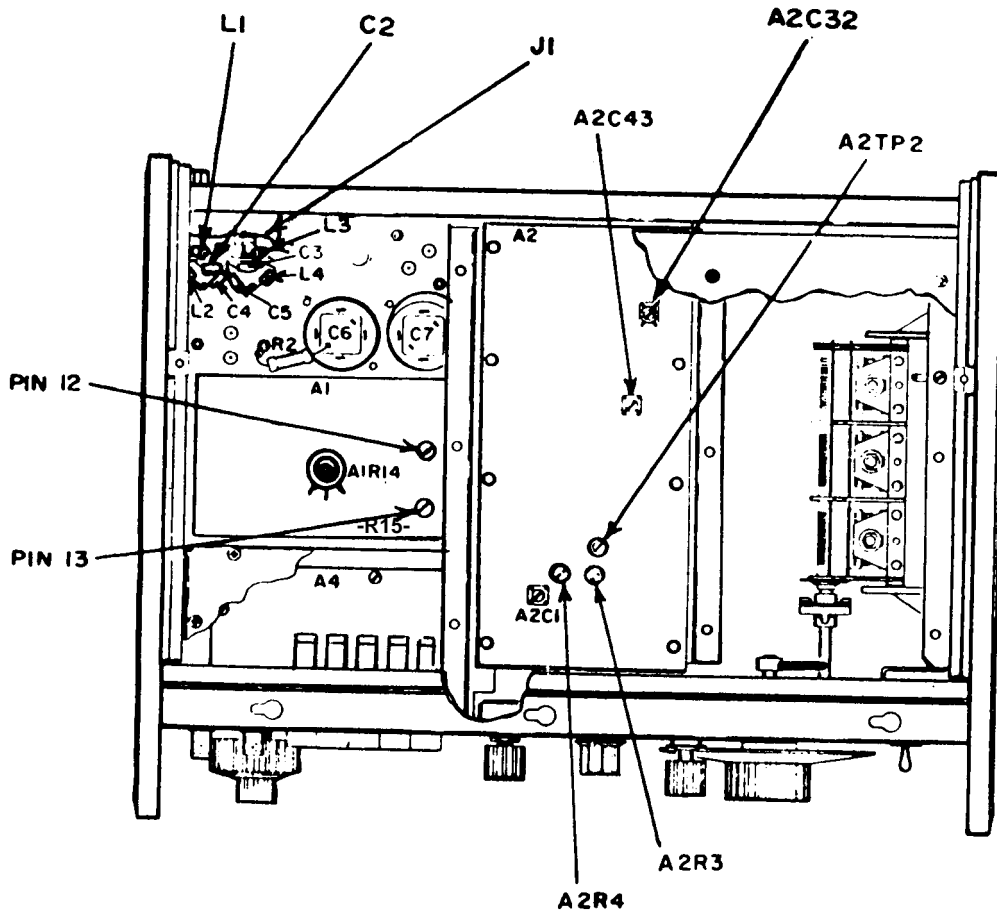
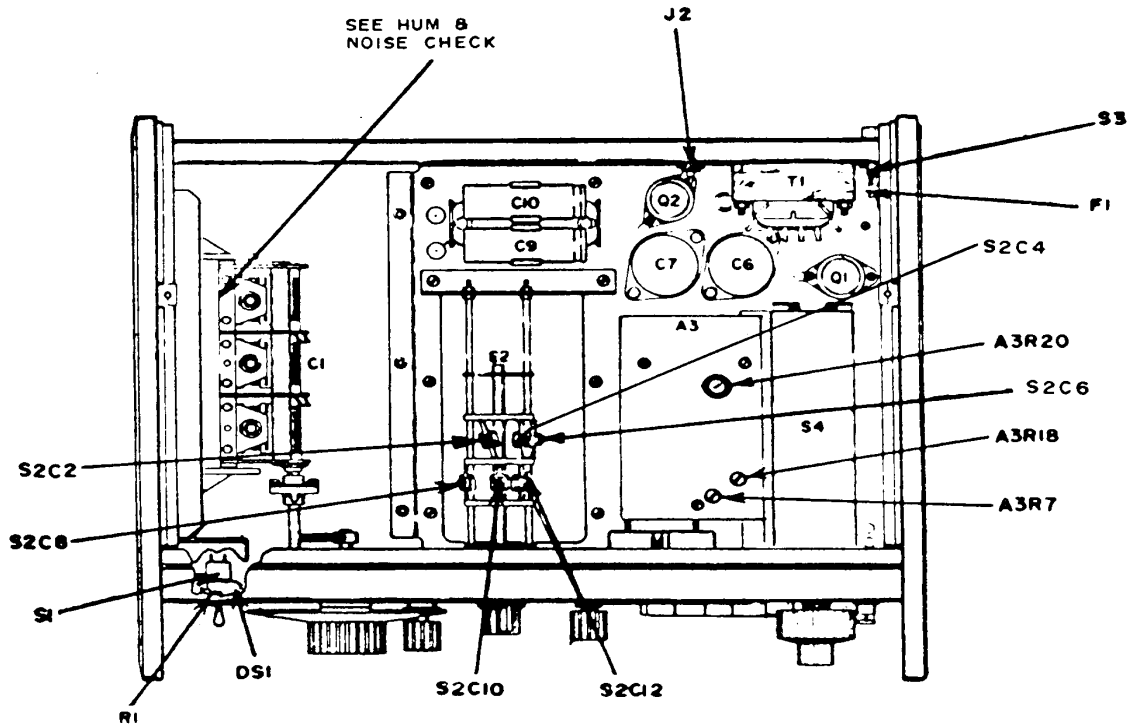

Figure 1. Adjustment locations - bottom view.
Figure 2. Adjustment locations - top view.
- (1) Connect multimeter between **A2TP2** (fig. 1) and **chassis ground** termination.
- (2) Connect audio analyzer or spectrum analyzer to TI UNBAL output, using 50 Ω feed-through termination.
- (3) Position controls as listed in (a) through (d) below:
- (4) Adjust **A2R3** (fig. 1) for a -350 mV indication on multimeter (R).
- (5) Adjust **A2R4** (fig. 1) for minimum distortion on audio analyzer, or at least -46 dB on the spectrum analyzer (R).
- (6) Rotate **FREQUENCY** dial fully ccw.
- (7) Alternately adjust **S2C2** and **S2C8** (fig. 2) until frequency counter indicates 10.2 kHz and multimeter indicates between -340 and -360 mV (R).
(8) Rotate **FREQUENCY** dial fully cw. Frequency counter will indicate between 965 and 970 Hz.
(9) Set **FREQUENCY** dial for a 1 kHz indication on frequency counter. If dial does not indicate 1, perform (a) through (c) as listed below:
- (c) Tighten retaining screws and install **FREQUENCY** dial knob (R).
(10) Set **FREQUENCY** dial to 10.
(11) Readjust **S2C2** and **S2C8** (fig. 2) alternately until frequency counter indicates 10 kHz and multimeter indicates -350 mV (R).
(12) Set **FREQUENCY RANGE** switch to **X1M** and **FREQUENCY** dial to 10.
(13) Adjust **S2C6** and **S2C12** (fig. 2) for a frequency counter reading between 10.1 and 10.2 MHz, and **A2TP2** (fig. 1) for multimeter reading between -0.38 and -0.40 V (R).
(14) Set **FREQUENCY** dial to 5. If frequency counter does not indicate between 4.935 and 5.065 MHz, go to (15) below. If (15) below is not performed, proceed to (16) below.
(15) Set **FREQUENCY DIAL** to 10. If frequency counter indication was high, adjust **A2C1** (fig. 1). If frequency counter reading was low, adjust **A2C1** (fig. 1) to lower frequency counter reading and repeat (12) through (14) above (R).
(16) Set **FREQUENCY RANGE** switch to **X100K** and **FREQUENCY** dial to **10**. Adjust **S2C4** and **S2C10** (fig. 2) for a frequency counter reading between 987 and 1013 kHz and multimeter reading at A2TP2 (fig. 1) between -0.3 and -0.4 V (R).
(17) Repeat (1) through (16) above until frequencies are within specified limits.
(1) Rotate **A3R18** (fig. 2) fully cw.
(2) Adjust **A3R7** (fig. 2) until **AMPLITUDE** control has sufficient range to exceed maximum meter deflection at both ends of meter scale.
(3) Adjust **AMPLITUDE** control for a -1 dBm indication on TI meter. Record multimeter indication as R2.
(4) Multiply R2 by 1.259 and record as R4.
(5) Adjust **AMPLITUDE** control for value of R4 on multimeter.
(6) Adjust **A3R18** (fig. 2) for a +1.0 dBm indication on TI meter
(7) Adjust **AMPLITUDE** control for a 0.7071 V rms indication on multimeter.
(8) Adjust **A3R7** (fig. 2) for a 0 dBm indication on TI meter (R).
(9) Rotate **AMPLITUDE** control fully cw.
(10) Adjust **A3R20** (fig. 2) for a 0.80 V indication on multimeter (R).
(11) Adjust **AMPLITUDE** control for a 0 dBm indication on TI meter.
(12) Adjust **A2C43** (fig. 1) for R2 value recorded in **9 a** (9) above (R).